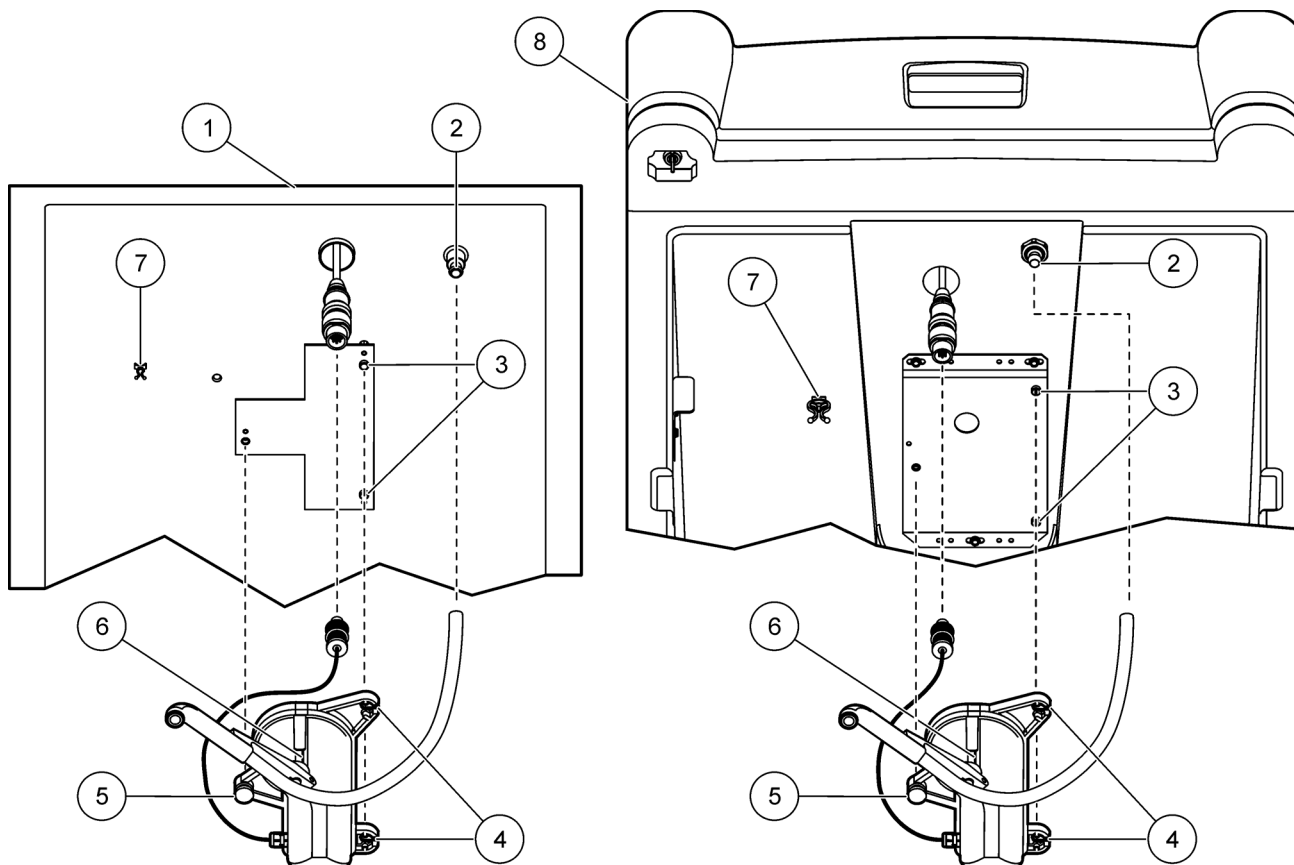

Figure 17 Distributor assembly installation
1. Slide the two slots in the distributor assembly housing under the retainer pins located on the top inside surface of the refrigerator (Figure 17).
3. Push the distributor tubing on the sampler fitting on the top inside surface of the refrigerator (Figure 17).